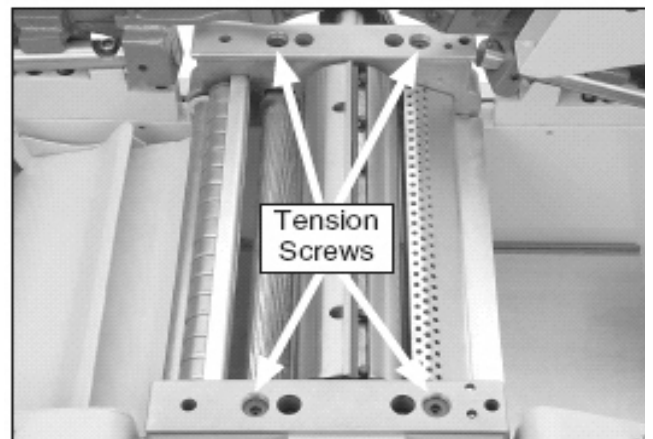

Figure 57. Spring tension screws.
1. Locate the four adjustment screws located on the top of the planer, as shown in **Figure 57**.